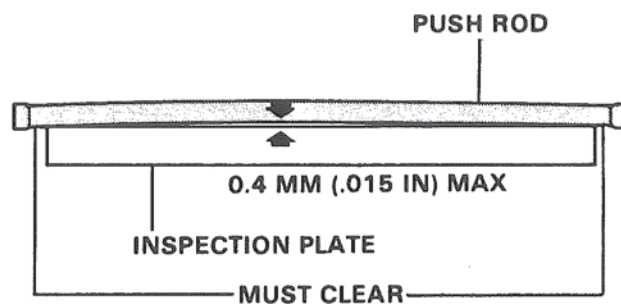

Figure 7. Checking Push Rod.
2. Place push rod on a flat surface (ends of rod must not touch inspection plate). Figure 7.